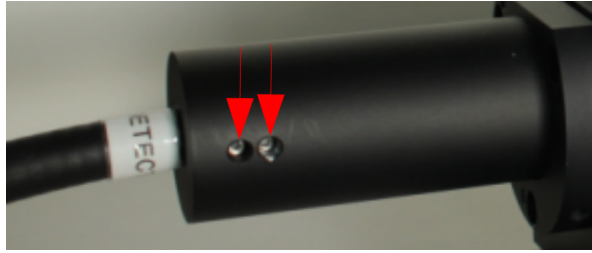

Fig. 5.4: NDD detection unit adapter. The light guide must be mounted so that there is **no gap** between label "detector" and the adapter of the detection unit.
- Make sure that the other end of the light guide is mounted correctly at the FLIM detection unit. The light guide has to be mounted so that there will be no gap between the label "detector" on the light guide and the light guide adapter at the detection unit (Fig. 5.4). Please be careful to assert **not too much force** on the fixing screws (arrows) since they might **brake the light guide**.